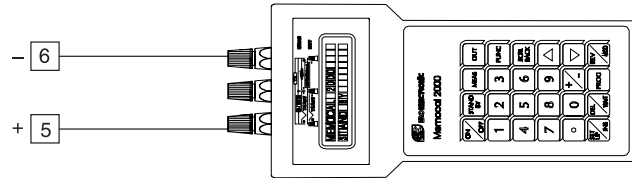

Fig.10
- Connect the instrument under test to the calibrator as shown in Fig. 10.